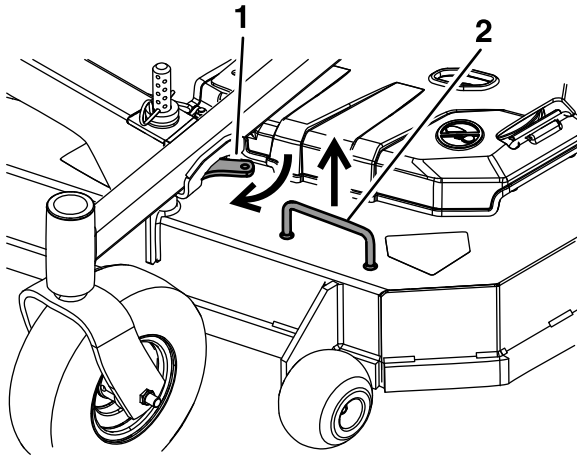

Figure 17
5. Lift the cutting deck using the handle as shown in Figure 17 (handle position varies with deck size)